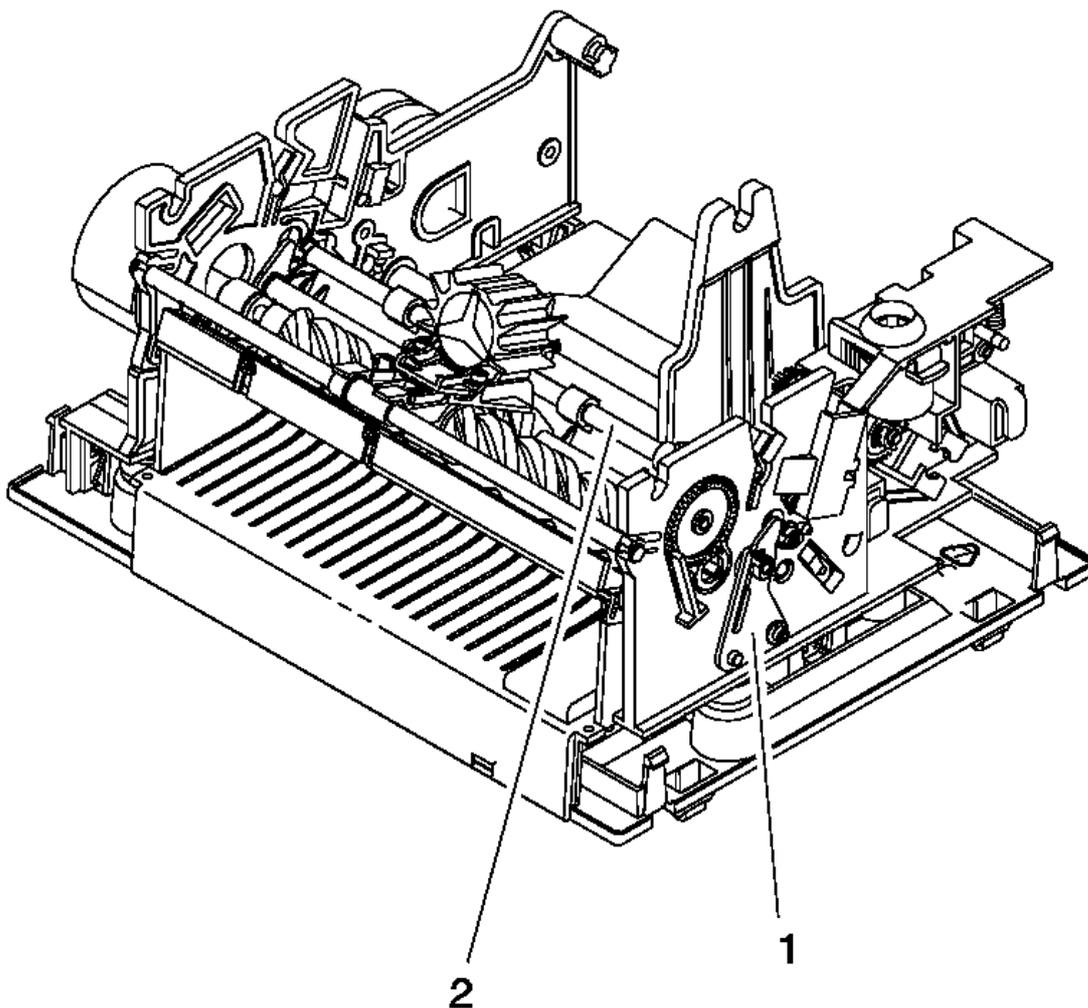

Figure 6-26. Forms Compensation Hardware
- Move the forms compensation shaft using (2) in Figure 6-26.